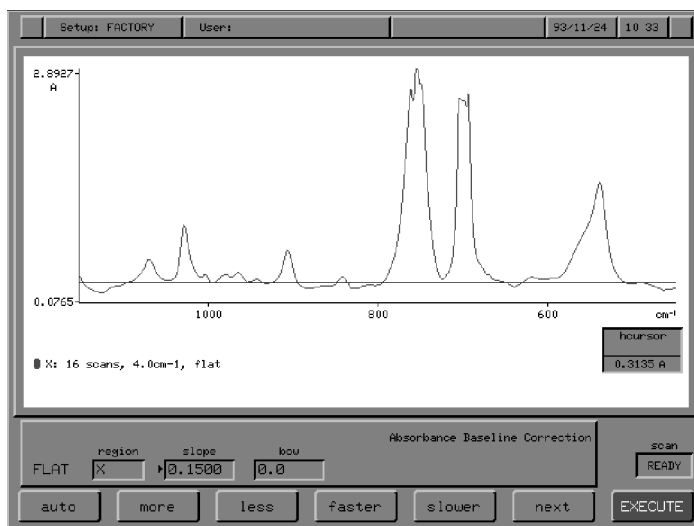

Figure 3-49 Correcting the Slope
- 3 Adjust the slope until the two ends of the curve are at the same ordinate value, either by typing a value, or by using **more**, **less**, **faster** and **slower** to determine the appropriate slope interactively (Figure 3-49).